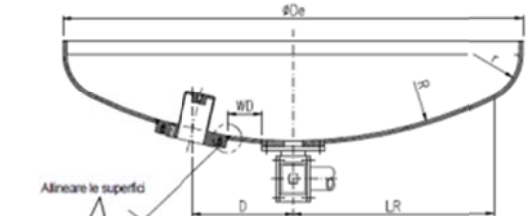

Fig. 3
Holding into consideration the recommendations of par 4.4.2.1 and 4.4.2.2, make the hole in the vessel, that shall be of the same diameter of the shroud, avoiding to leave any air gap between the shroud and the edge of the hole. The inner edge of the vessel must be round in order to make a 45° angle sloping inwards (creating a weld groove). On the outer edge of the hole must be left a straight part of approx. 2 mm, fig. 3
- ◆ Place the shroud into the vessel hole checking that the inner surface of the vessel is flush with the outer edges of the shroud, see fig. 3